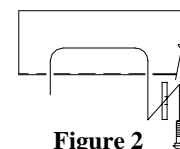

Figure 2
- Fishwire ½-13 carriage bolt and spacer block through access hole and back down through same hole (see figure 2)